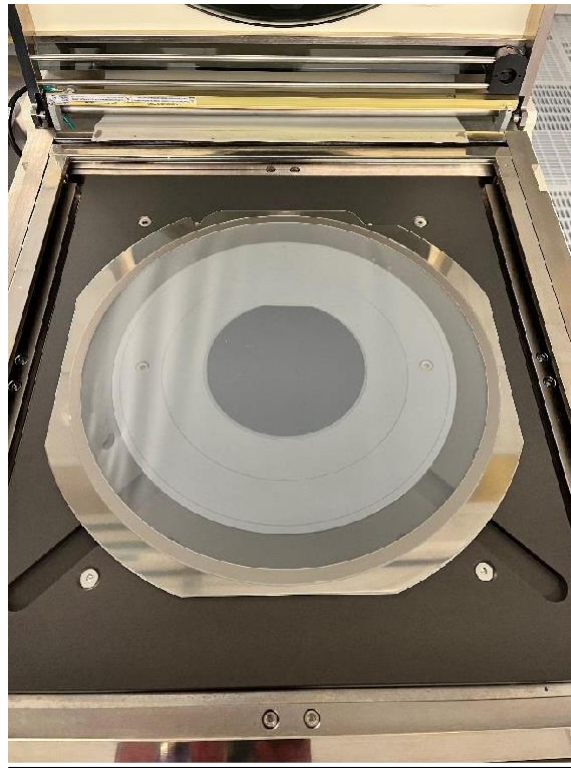

Figure 1: Mounted sample in Wafer Tape Applicator machine with excess tape removed.
- viii. Open the lid of the Applicator and peel away the excess tape. Remove the mounted sample by disengaging the vacuum and turning off the Wafer Tape Applicator. See **Figure 1**.